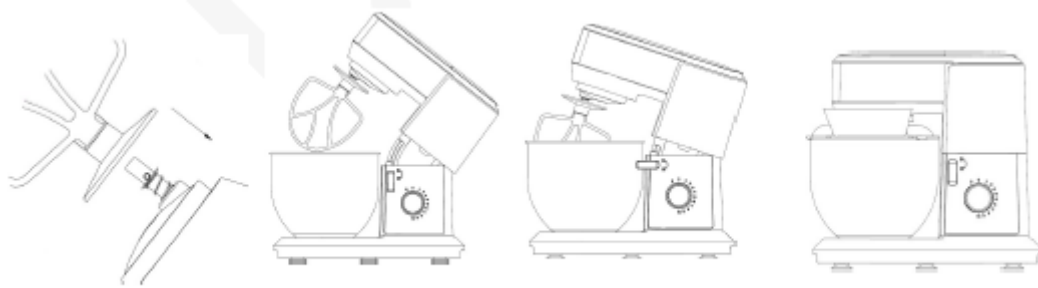

Fig.1
- (1) Turn the "Head release switch" clockwise for 90° to make the head stay at the release status, then lift the head upwards until it is locked well in position.
- (2) To install the accessory onto the lower output port, firstly make the groove of the accessory align with the fixing pin of the lower output port shaft and then insert the accessory into the lower output port, then push the accessory upwards and rotate it clockwise to fix the accessory onto the fixing pin of lower output port shaft (see Fig.1).